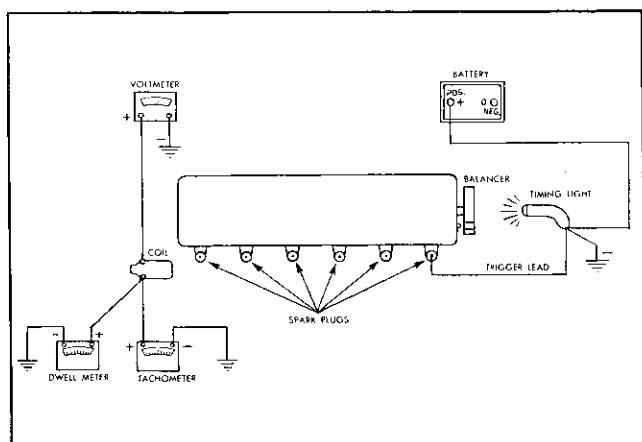

Fig. 6C-1 Schematic of Tune-Up Instrumentation
Follow manufacturers recommendations for the use of testing equipment. Fig. 6C-1 shows a basic schematic for instrumentation which will apply to many types of test equipment and may be used as a rough guide if equipment manufacturer's instructions are not available.
Connections shown in Fig. 6C-1 are made as follows:
1. Attach a timing light and tachometer as shown in Fig. 6C-1.